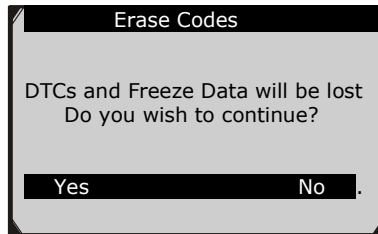

Figure 5.7
- If you press **Yes** function key or **OK** button, a warning message will come up asking your confirmation. (Figure 5.7)